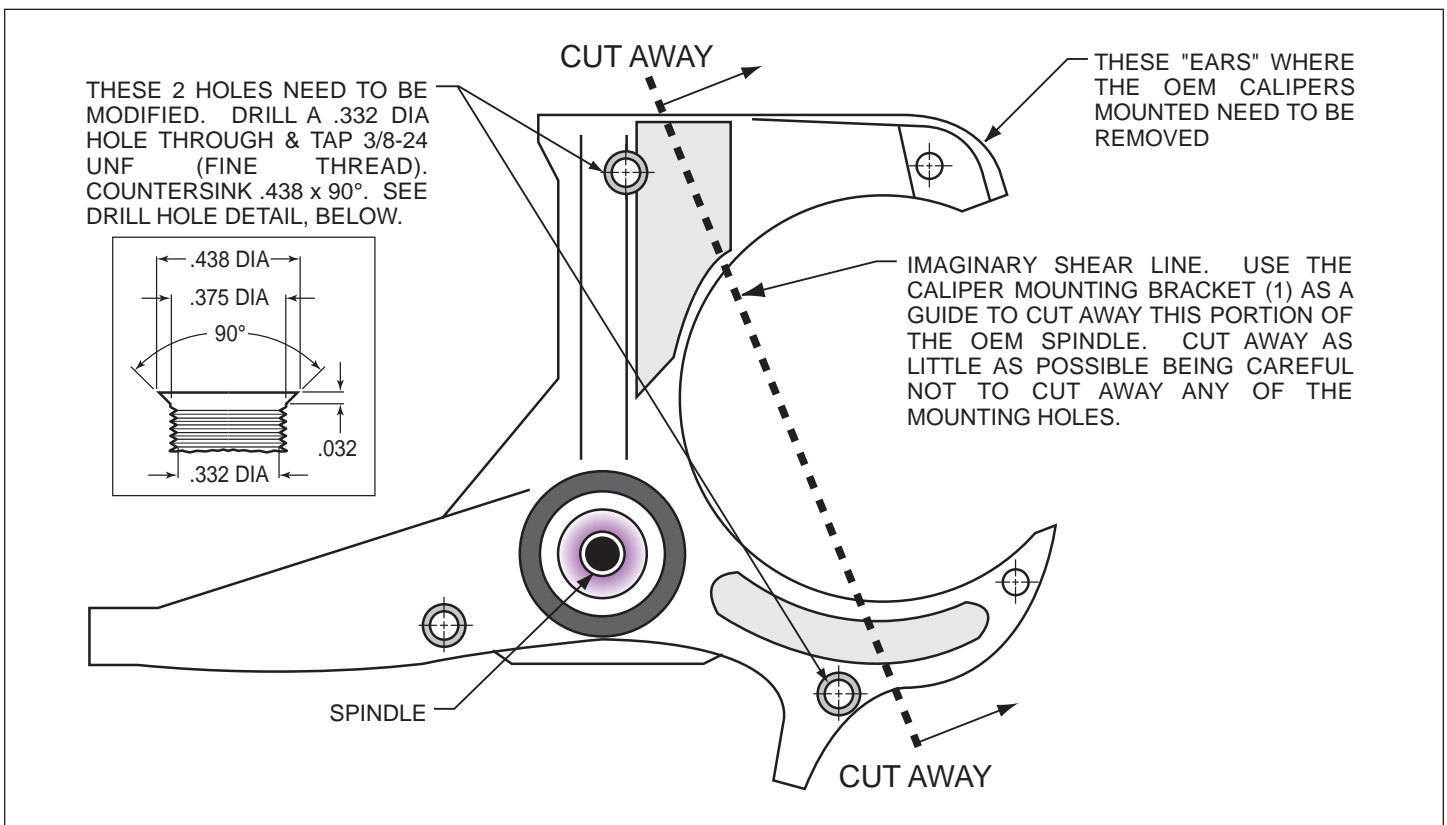

Figure 1. Steering Arm / Spindle Modifications
NOTE: These modifications should be performed by a qualified machinist and completed before assembly of the Wilwood disc brake kit begins. Refer to Figure 1 on the following page as necessary (numbers in parenthesis refer to the parts list on page three). Only one view of the steering arm/spindle is shown, but the modifications need to be performed on both steering arm/spindles.
The two OEM holes that will be used to mount the caliper mounting bracket (1) need to be modified. Drill a .332 diameter hole through both holes, Figure 1, then tap 3/8-24 UNF (fine thread). Countersink the holes to .438 x 90°. The "ears" that protrude to form a "C" shape need to be removed to facilitate the installation of the Wilwood kit. Using the bracket as a template, mark two cut marks on the steering arm. Remove as little as necessary from the "C" shape, being careful not to cut away any of the mounting holes required to bolt on the bracket.